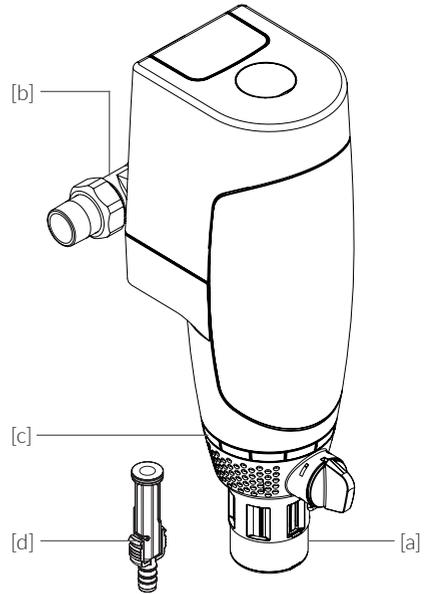

Fig. 5.1
Hose nozzle [d] (Fig. 5.1)
- / Output pressure gauge 0 - 10 bar (Fig. 5.1)
- / Alternatively, the backwash water can also be discharged via a hose. In this case, a hose nozzle is included in the scope of delivery [Fig. 5.1, d].